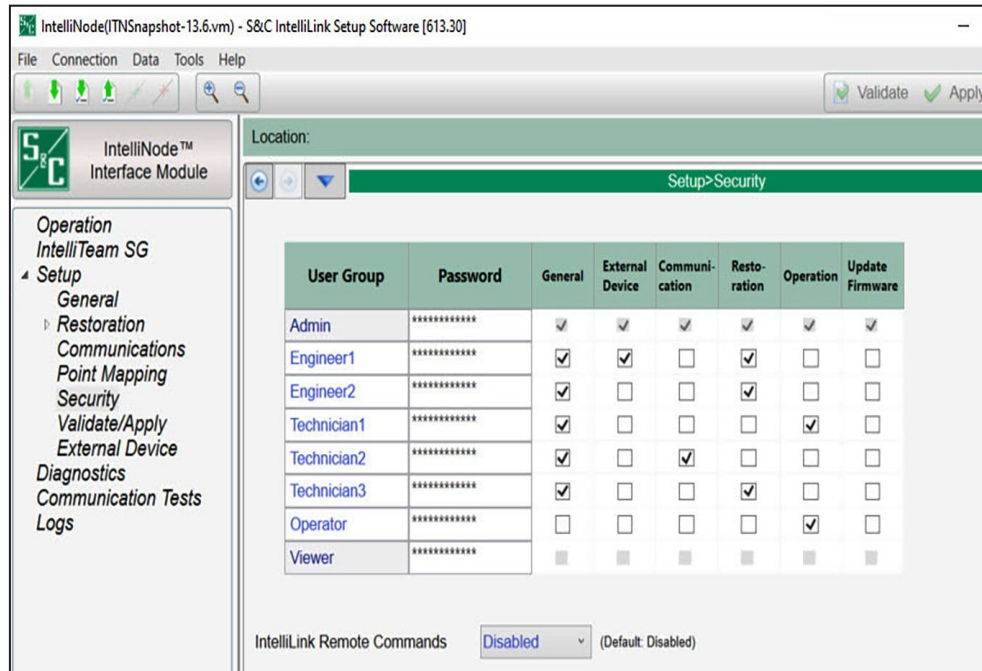

Figure 41. The *Setup>Security* screen.
STEP 2. Go to the *Setup>Security* screen in IntelliLink Setup Software. See Figure 41.